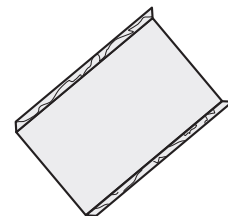

Figure 3.
- e. Create an aluminum tray using the aluminum foil (see Figure 3).